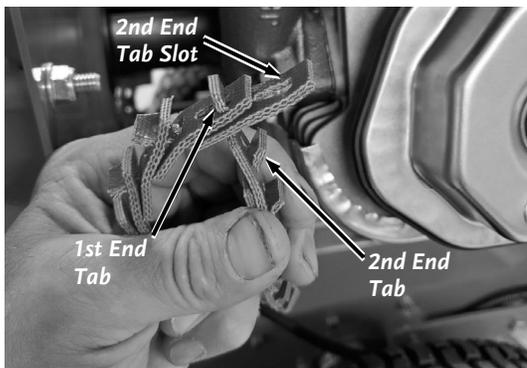

Figure 51
- b. Twist the Belt so the End Tab locks into place and the 2nd End Tab is lined up with the 2nd End Tab Slot (**Figure 51**).